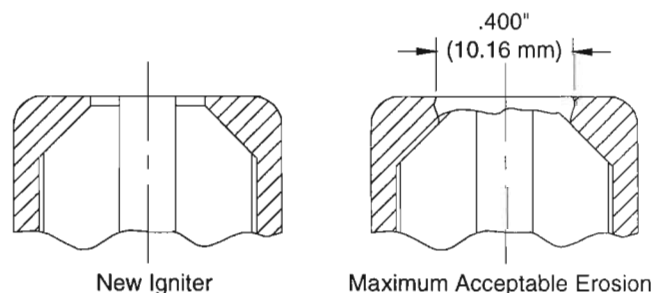

Figure 3. Igniter Wear Limits
- (2) Inspect firing tip for erosion to determine if gap is within serviceable limits (See Figure 3). Use calipers or gap gage to measure ground shell ID. If limits are exceeded, discard igniter. Limits are: